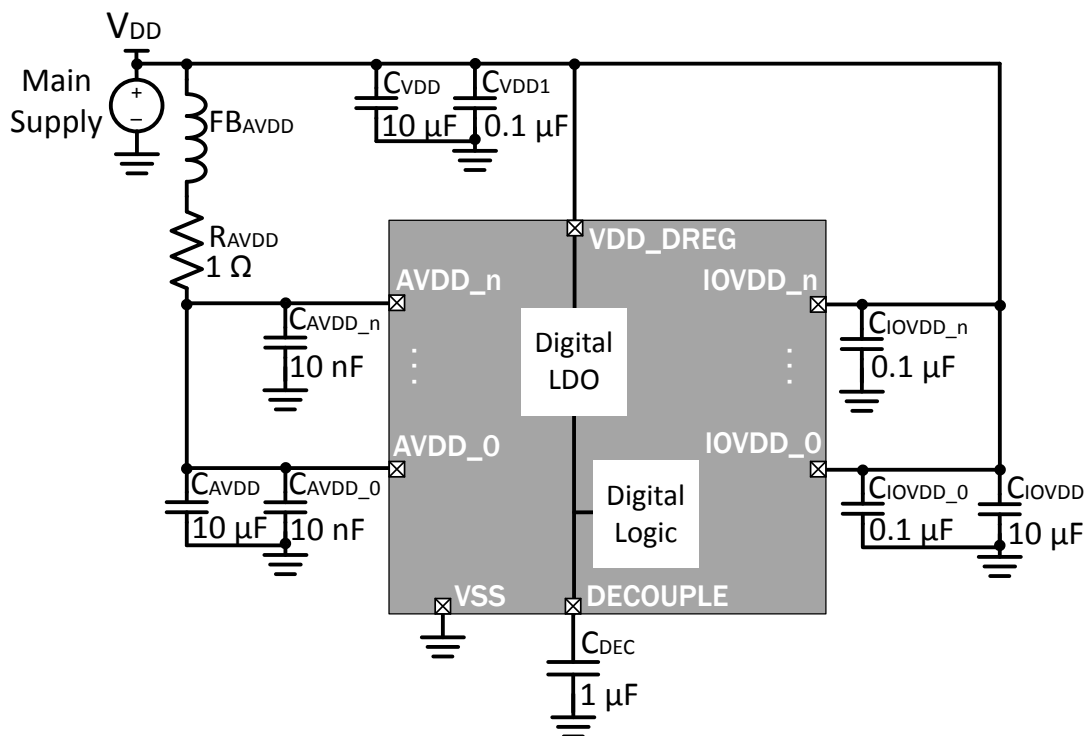

Figure 3.2. EFM32 Series 0 Improved AVDD Filtering Example
**Note:** Note that during power-on for EFM32GG and EFM32G Series 0 devices, the AVDD\_x pins must not be powered up after the IOVDD\_x and VDD\_DREG pins. If the rise time of the power supply is short, the filter in Figure 3.2 EFM32 Series 0 Improved AVDD Filtering Example on page 9 can cause a significant delay on the AVDD\_x pins. For improved AVDD filtering for EFM32GG and EFM32G Series 0 devices, refer to section 3.3 EFM32GG and EFM32G Series 0 Only—Improved AVDD Filtering Example